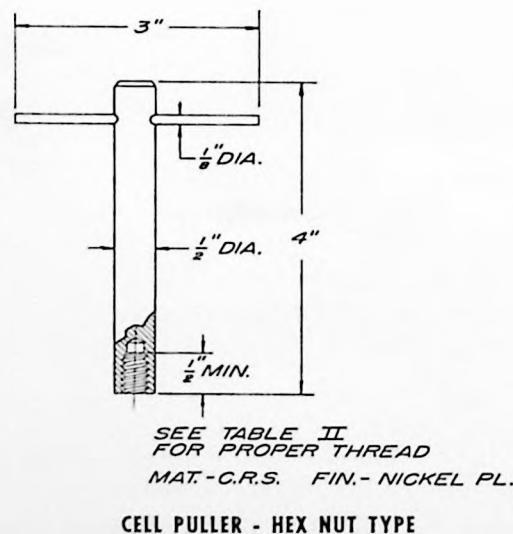

FIGURE 9
- Withdraw cell, using one of the tools shown in Figure 9. Also see Figure 10.
The tools shown in Figure 9 are not available from Sonotone. They are of simple construction and can be made in any machine shop.